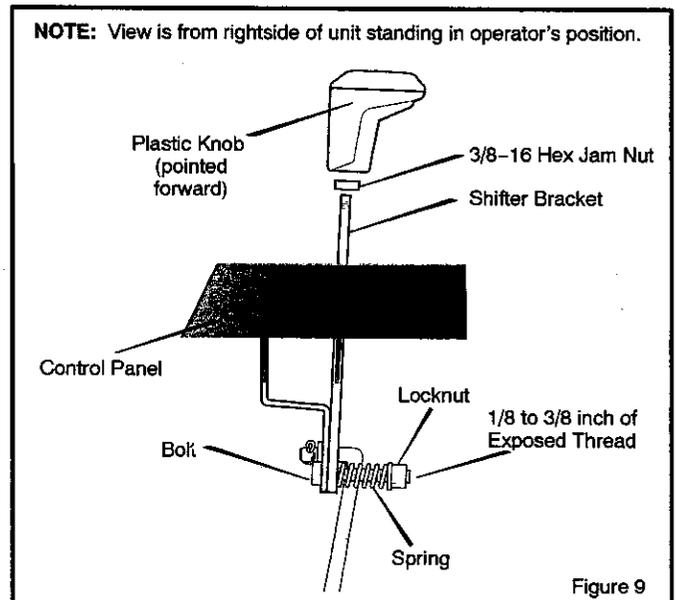

Figure 9
2. Remove locknut, washer, spring, and the bolt. (See Figure 9)
4. Reinstall bolt, spring, washer and locknut. (See Figure 9)
6. Thread the  $3/8-16$ " hex jam nut onto the lever until the nut reaches the end of the thread. (See Figure 9)